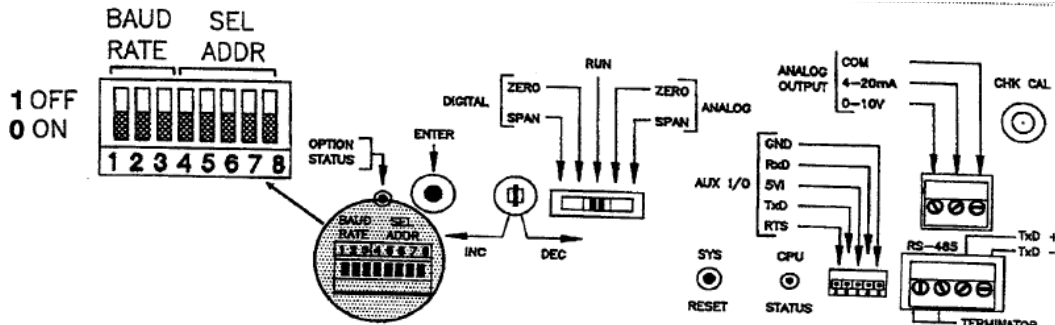

Figure 4-1. Serial Communication Parameter Selection Switch.
The DXp-10/15 is equipped with a variety of standard and optional serial output formats that are selected using a series of DIP switches (Figure 4-1). DIP switch positions 1, 2, and 3 allow three format choices; Digi-System network, continuous output, and terminal/computer interface (Table 4-1). All three types of DXp interfacing will be discussed in the following paragraphs. Positions 4-7 designate transmitter address for applications requiring more than one DXp unit (Table 4-2). Switch position 8 is unused and should be left in the '0' (ON) position.